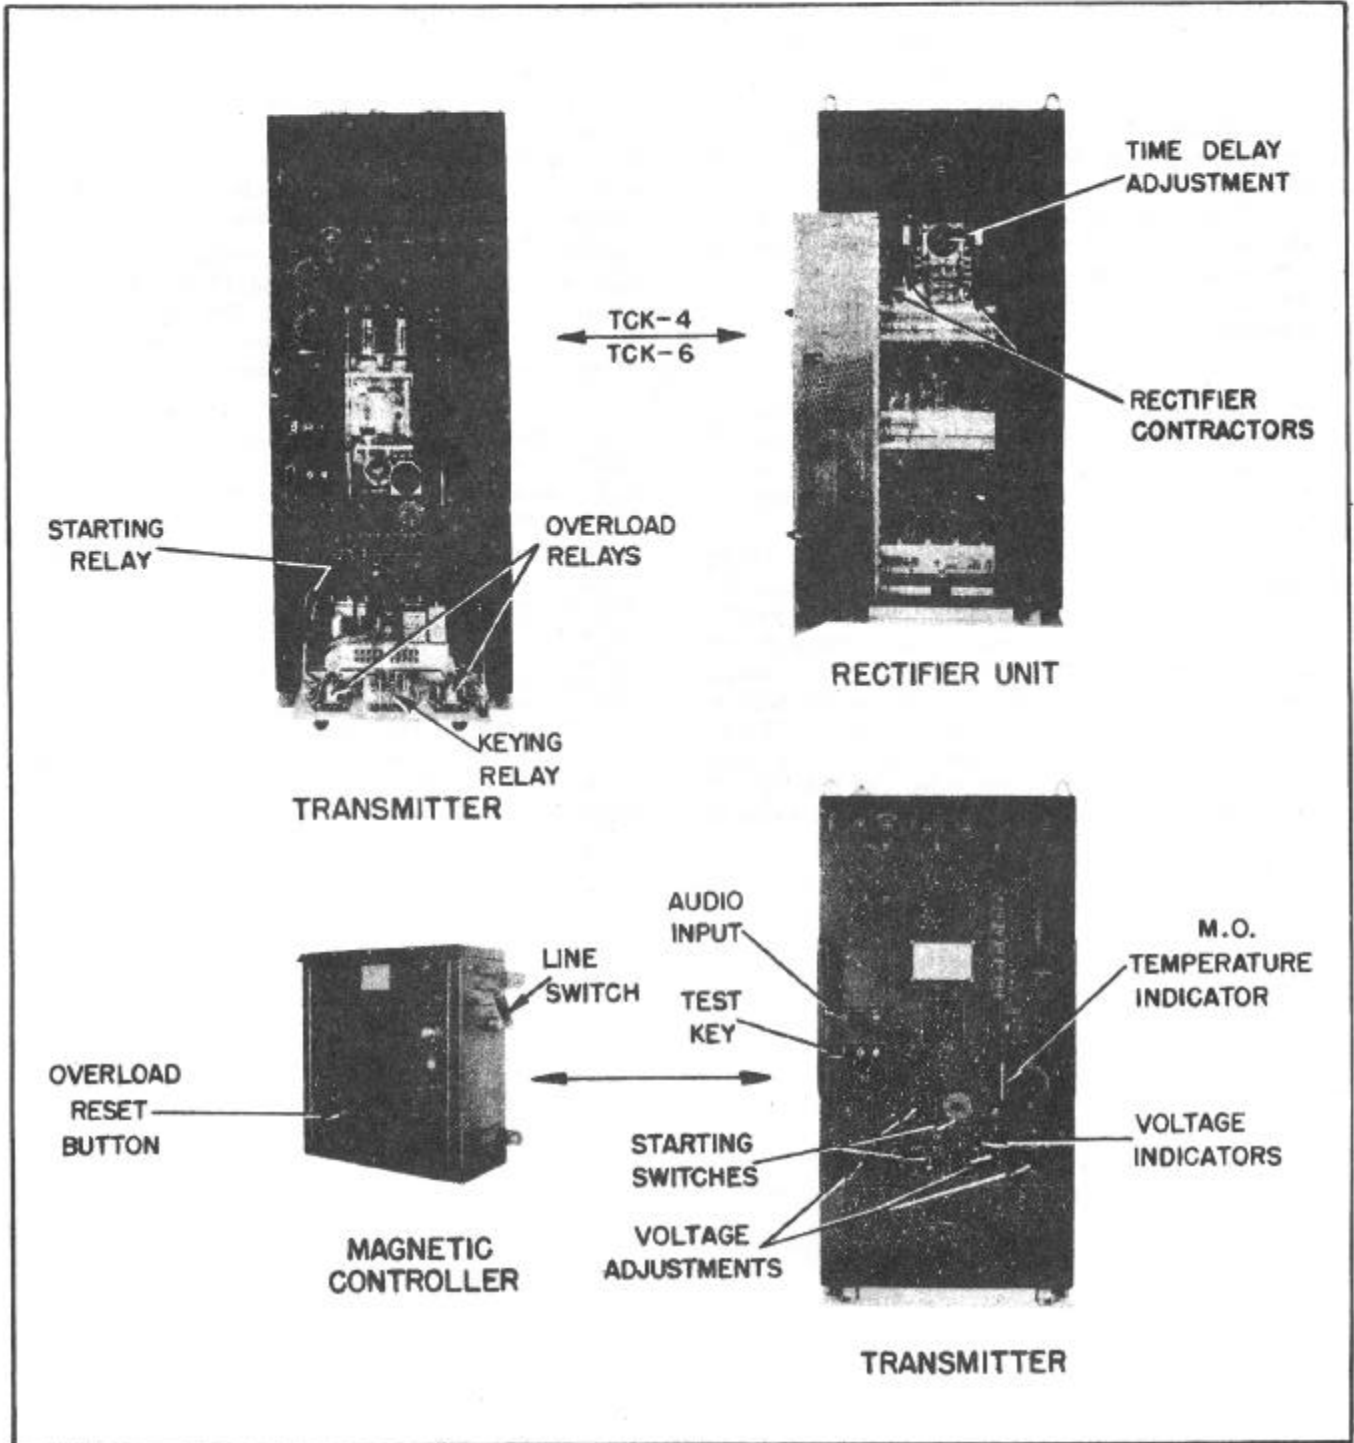

Figure 3-18 Control Identification
(Reference is made to Fig. 3-18 for location of components mentioned in this section.)
b. Make a mechanical inspection of all relays in the Transmitter and Rectifier Unit, (their locations are shown in Fig. 3-18). Make sure that the armature or movable contact arm of each relay is not bound and is free to move within the confines of the component limitations. In the transmitters the relays are located behind the lower relay access door, and in the Rectifier they are behind the front panel door of the unit.